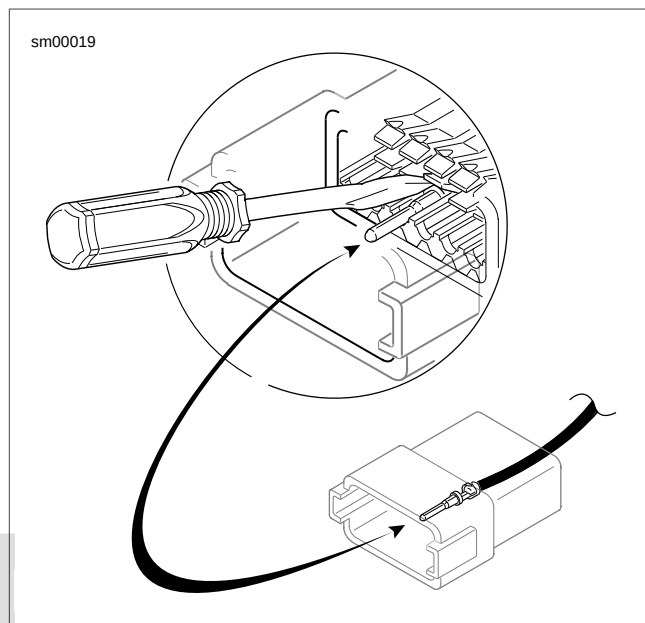

Figure A-19. Deutsch Connector: Depress Terminal Latch and Back Out Pin
2. See Figure A-19. Use a pick or small screwdriver to depress terminal latches inside socket housing and back out sockets through holes in rear wire seal.